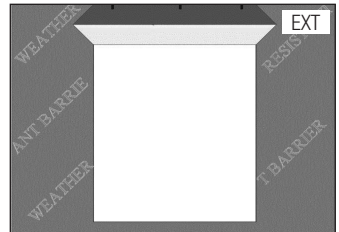

FIG. 4
- H) Temporarily tape this top flap up. (Fig. 4)